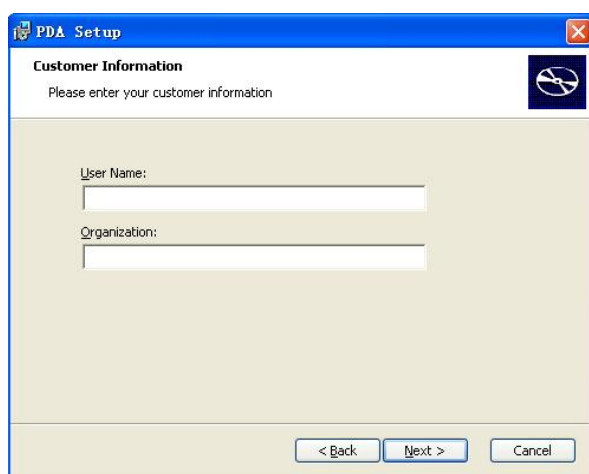
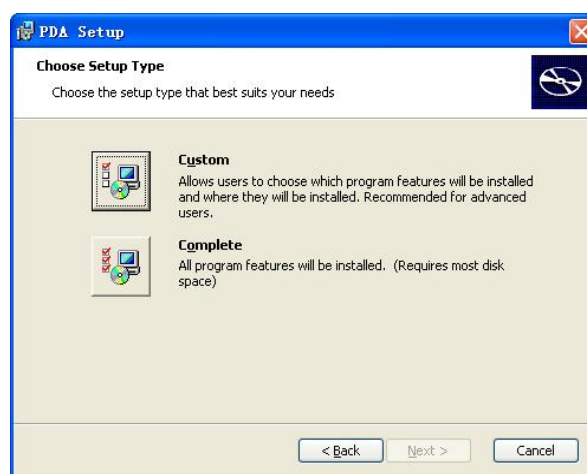
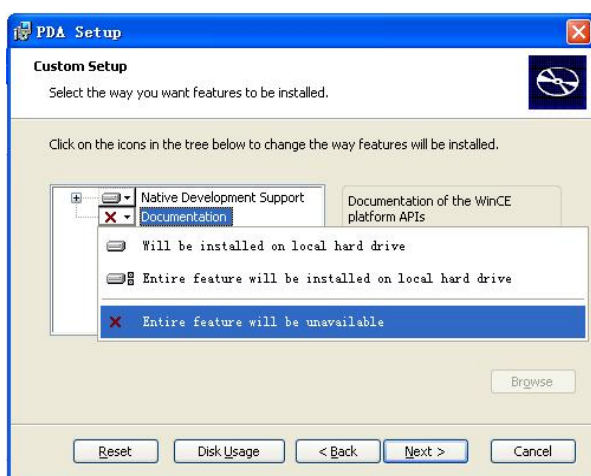
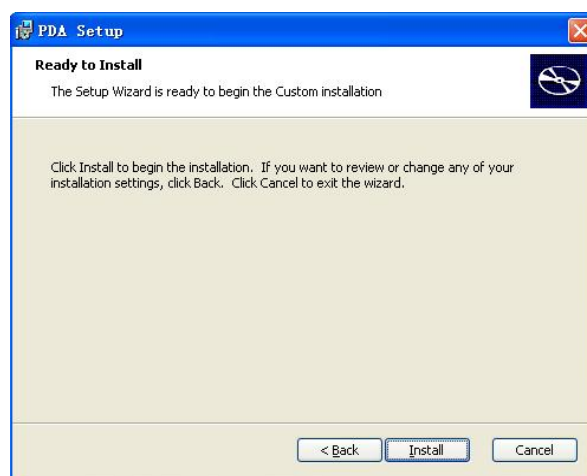

Figure6-1-3
Figure6-1-4
Figure6-1-5
Figure6-1-6
- 4) In Figure6-1-2, users can read the **End-User License Agreement** and choose **Accept** and click **Next** to enter Figure6-1-3 interface;
5) In Figure6-1-3, you can fill in the blanks for **User Name** and **Organization**, when the information is input click **Next** to enter Figure6-1-4;
6) In Figure6-1-4, please select **Custom** to enter Figure6-1-5;
7) In Figure6-1-5 select **Documentation** → **Entire feature will be unavailable**. No need to install **Documentation** information because the system will be likely to go failure while installing if this section is selected. Then click **Next** to enter Figure6-1-6;
8) Click **Install** in Figure6-1-6 to start installing SDK and enter Figure6-1-7;
The pins in Figure6-1-2 and Figure6-1-3 are feed through.